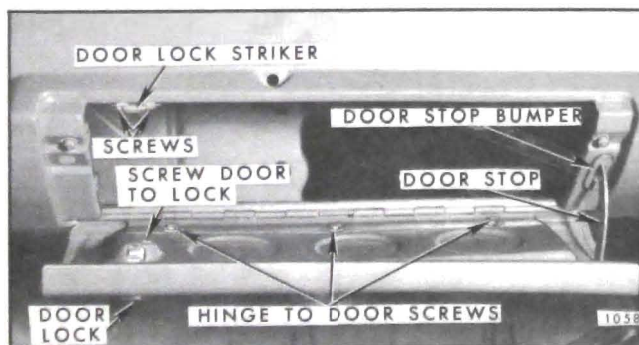

Fig. 5-9—Instrument Panel Compartment Door
4. Striker plates are adjustable on the instrument panel by loosening the attaching screws and positioning the striker plate as desired (Figs. 5-9, 5-10, 5-11 and 5-12).
1. Open compartment door, remove screw attaching lock to door inner panel and remove lock assembly (Figs. 5-9, 5-10, 5-11 and 5-12).